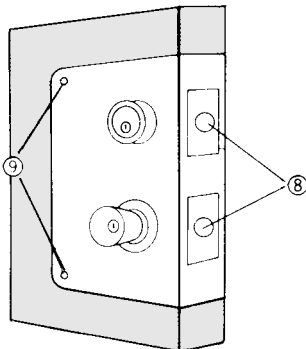

Figure 13.141 Install the strikes and mounting screws to complete the installation. (M.A.G. Engineering and Mfg., Inc.)
6. Close the door and check that both the latch and deadbolt (8) enter the strikes (7). If they do not enter, move the Install-A-Lock assembly slightly up or down until the latches enter (Fig. 13.141).
7. Install the mounting screws (9) with finishing washers, being sure that the unit is flush with the door.